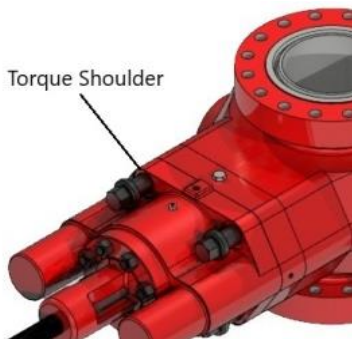
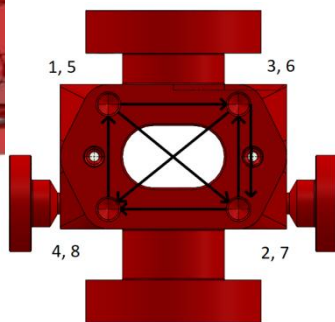

Figure 4: Torque Shoulder
Figure 5: Torque Pattern
To install bonnet bolts on the HU BOP apply thread compound (anti-seize) to the threads and the torque shoulder of the bolt shown in figure 4 below. The recommended thread compound shall be molybdenum disulfide/graphite based anti-seize. The bolts can be applied using an air impact wrench, a hammer wrench, or a torque wrench. The torque values are listed in table 3 below. When installing Bonnet Bolts, follow the pattern shown in figure 5 to ensure the bonnet is seated flush to the body.
- ii. The Bonnet bolts should be tightened using the order in Figure 5 above.